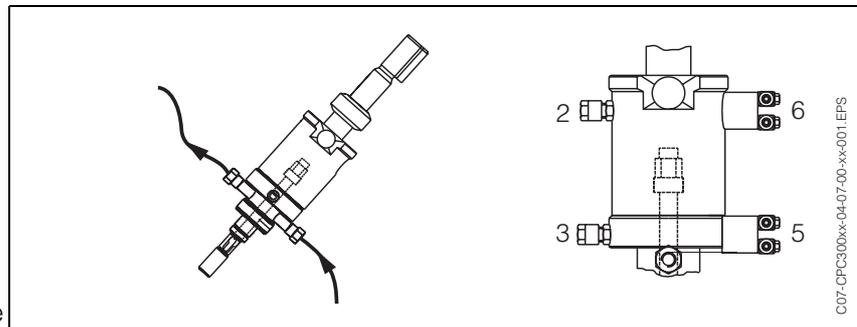

Fig. 5: Left: Inlet of the rinsing chambers "from below"; outlet "upwards".
- Fit hoses in inlet of the rinsing chambers "from below" and in the outlet "upwards". This prevents excessive air from accumulating in the rinsing chamber (s. fig. 5 left).
(s. fig. 5 right).